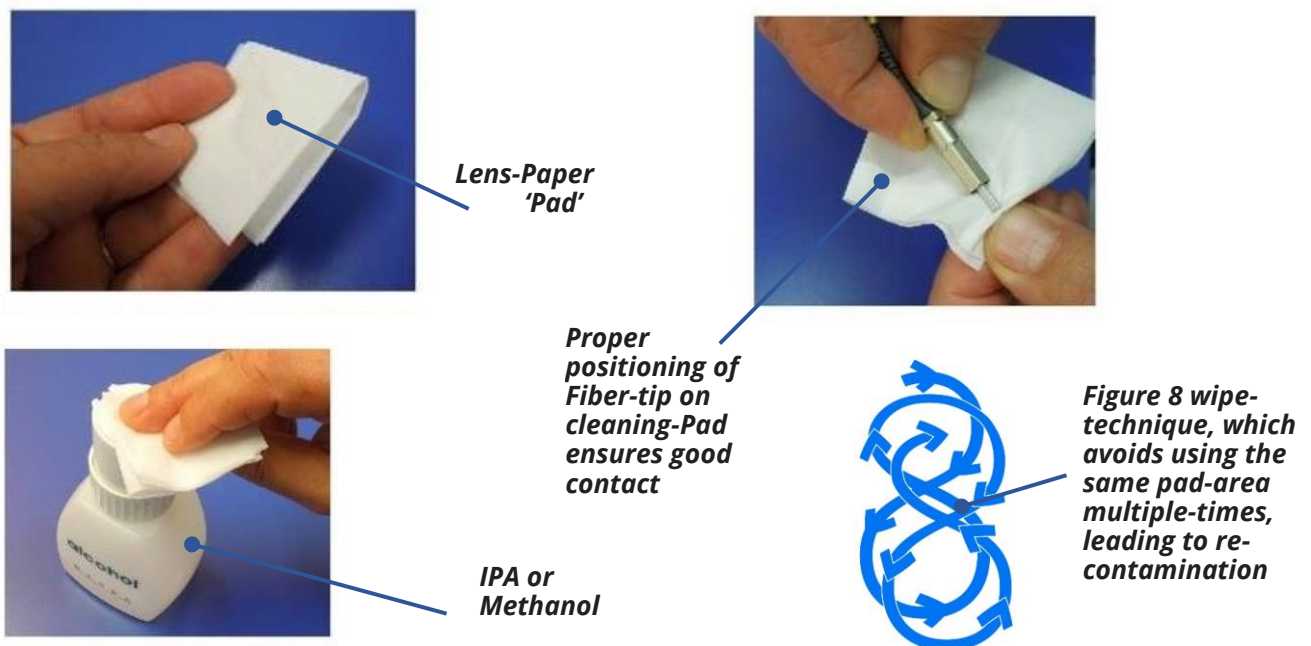

Figure 9.3-3: 'Figure 8' Wet-cleaning a fiber-tip with a 'cleaning pad' made from optical-grade lens paper.
4. If a tip is dirty, clean with a cartridge cleaner, as-per the manufacturer’s instructions – or – follow a simple ‘Wet-to-Dry wipe’ technique, as-follows: (Also see Figure 9.3-3, below)
(See technique-steps illustrated in Figure 9.3-3, next-page)